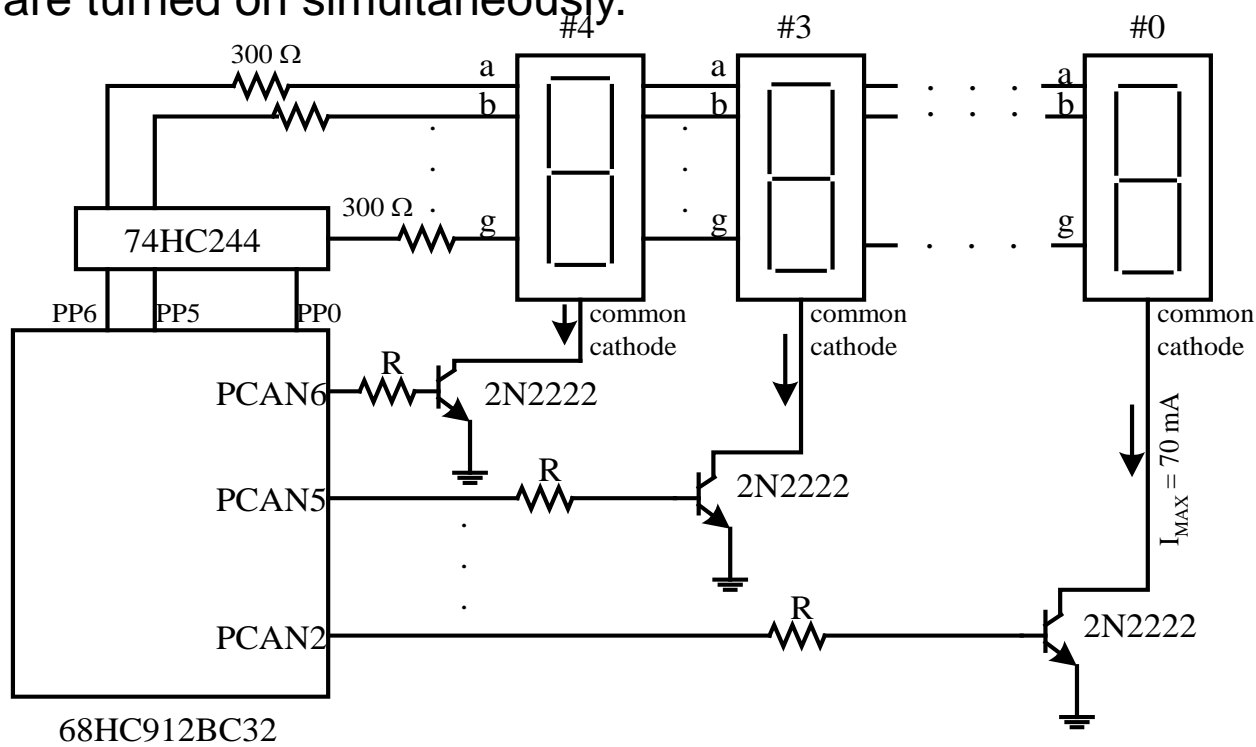

Figure 7.13 Port P and Port CAN together drive five seven-segment displays (HC912BC32)
**Example 7.4** Write a sequence of instructions to display 4 on the seven-segment display #4 in Figure 7.13.
To display 4 on the seven-segment no. 4 in Figure 7.13, we need to
**Example 7.5** Write a program to display 12345 on the five seven-segment displays shown in Figure 7.13.